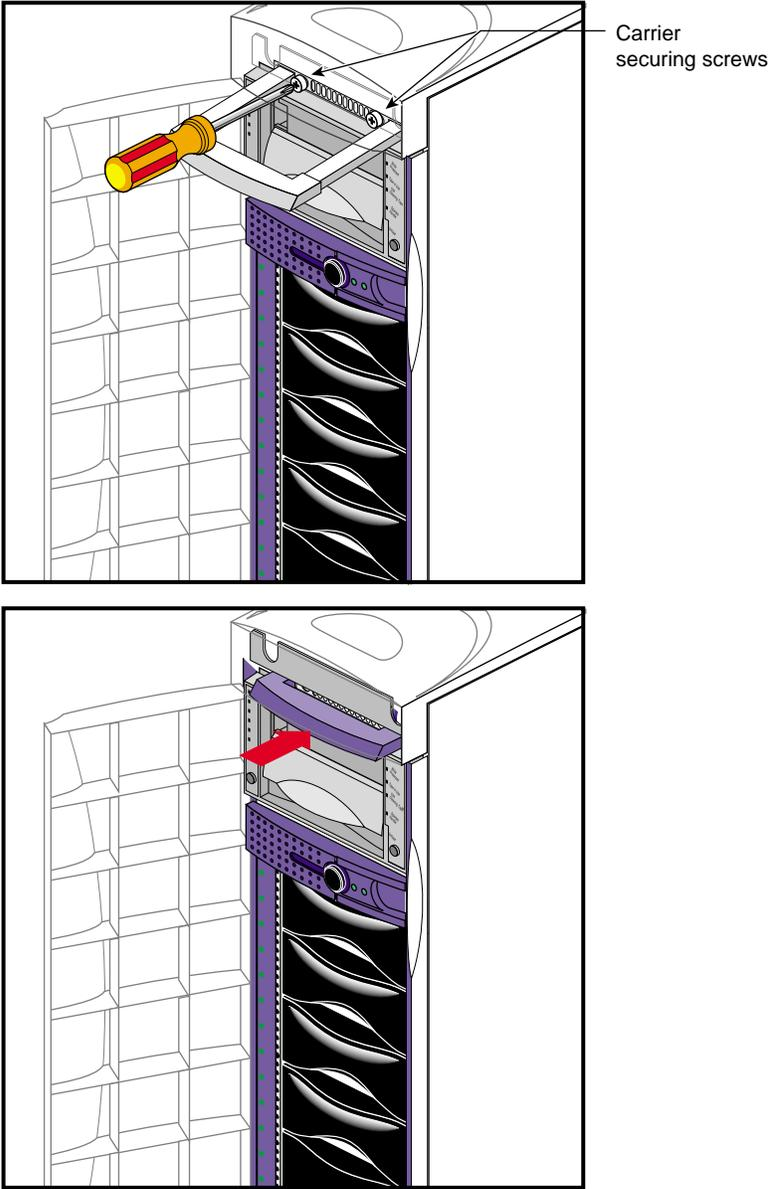

Figure 2-10 Securing the Carrier and DLT Assembly
3. Use the #2 Phillips screwdriver to tighten the two screws that hold the carrier to the enclosure, then slide the handle all the way in (see Figure 2-10).